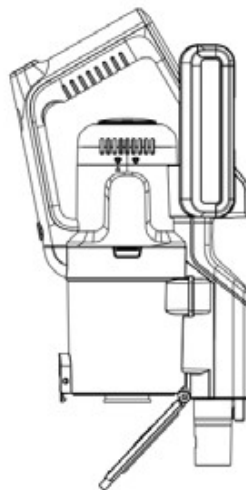

Fig.12
2. Position the dust container over a refuse bin, then press the lever at the front of the container to open the base (fig. 12) and empty the container. Gently tap the container against the side of the bin to remove any stubborn dust.